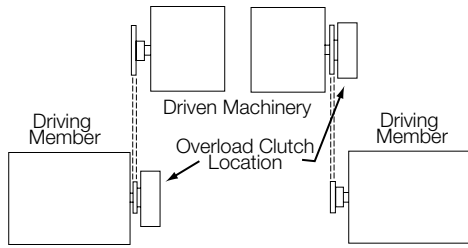

Figure 8
- a. Either location of the clutch shown in Figure 8 is **preferred** in indirect drive applications.